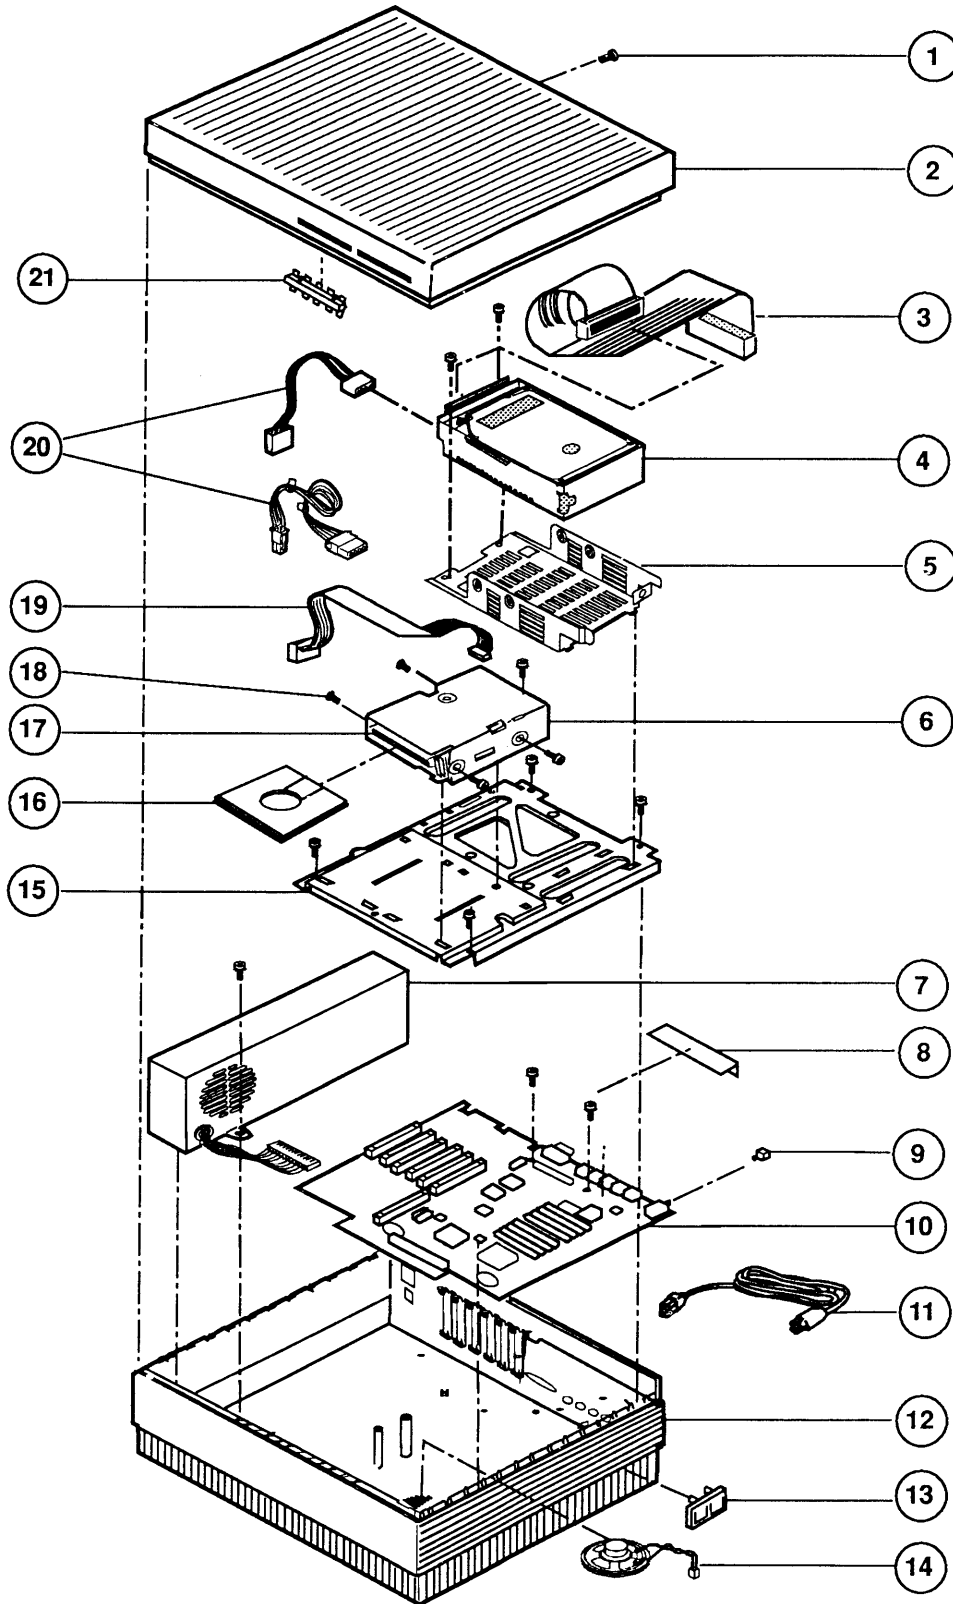

Figure 1
- IPL.3 Macintosh II/IIx/IIfx – System Exploded View (Figure 1)
□ MACINTOSH II/IIfx/IIfx – SYSTEM EXPLODED VIEW (Figure 1)